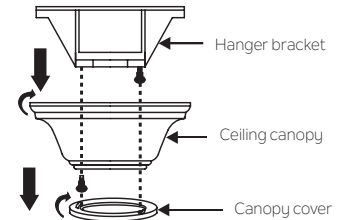

Fig. 5
**Step 1.** Remove the decorative canopy bottom cover from the canopy by turning the cover counter clockwise. (Fig. 5)
**Step 2.** Remove the ceiling mounting bracket from the canopy by removing (and save one of the two screws. Loosen the remaining screw by a half turn. (Fig. 5)